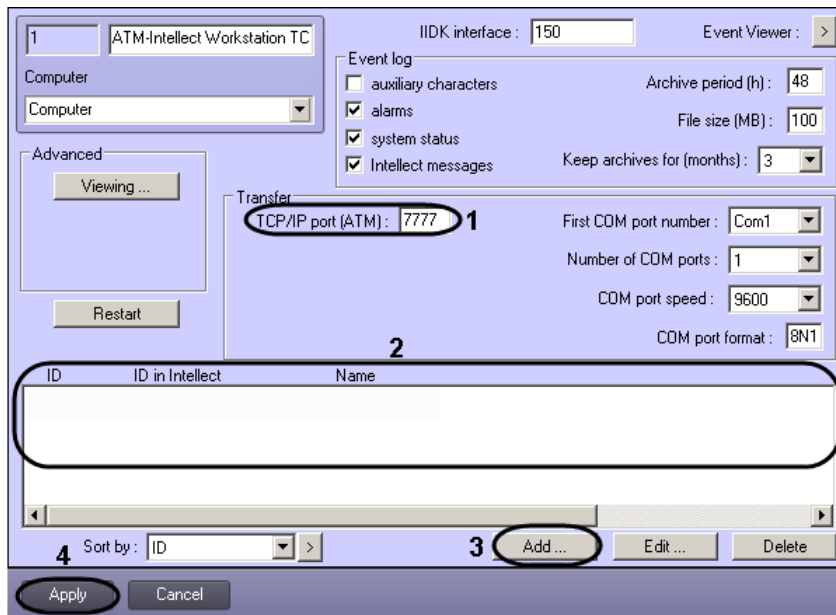

Fig. 7.3—1 Setting up a connection
1. Go to the **ATM-Intellect Workstation TC** object's setting panel (Fig. 7.3—1).
2. In the **TCP/IP port (ATM)** field enter the port for communication via the TCP/IP protocol with remote *ATM-Intellect Workstations* (see Fig. 7.3—1, 1).